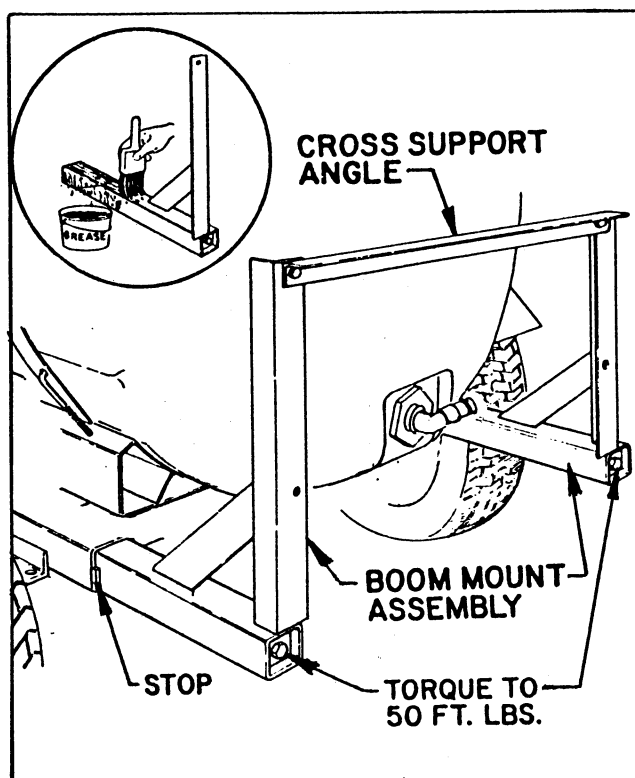

FIG. 5
■ Install the two Boom Mount Assemblies into the Vehicle Frame as shown in FIG. 5. Use a torque wrench to tighten the long (1/4" x 8") screws which join the Wedges to the tubes. Tighten to 50 ft. lbs.
■ Position the Cross Support Angle as shown in FIG. 5 and attach it to the Boom Mount Assemblies with two 1/2" x 1-1/4" hex hd cap screws, and lock nuts.